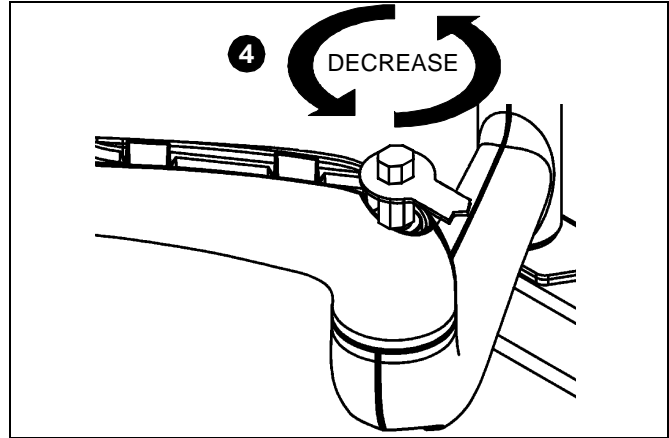
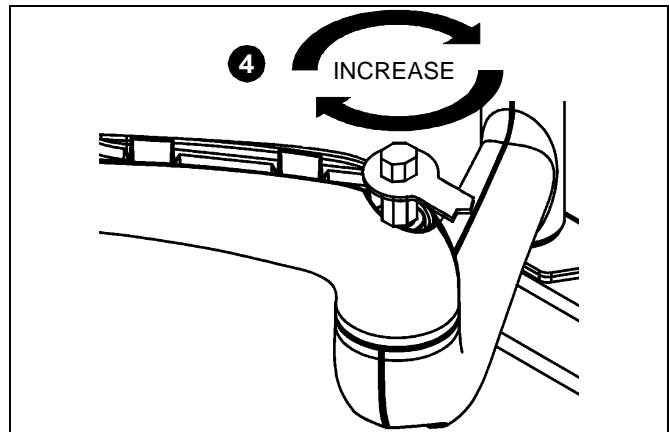

Figure 11
Figure 12
4. Using the adjustment wrench (L), turn adjustment bar (K) clockwise to increase swing arm tension or counterclockwise to reduce swing arm tension. (Small adjustments of 1/8 turn or less are typically all that is required to achieve desired tension.) (See Figure 11) and (See Figure 12)